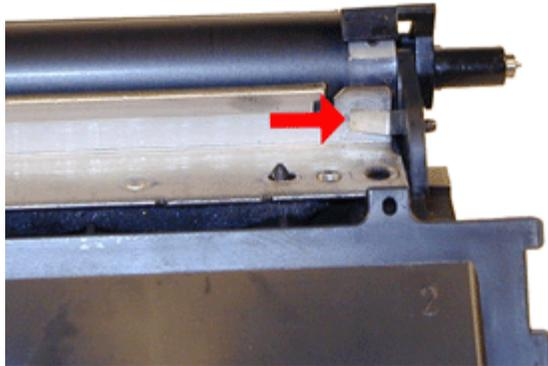

FIGURE 26
21. Clean the doctor blade with Acetone followed by alcohol. Make sure it is dry, and install in the cartridge. Make sure that the Dr. blade contact is behind the blade, and that the tensioners are on top. See Figures 26 & 27